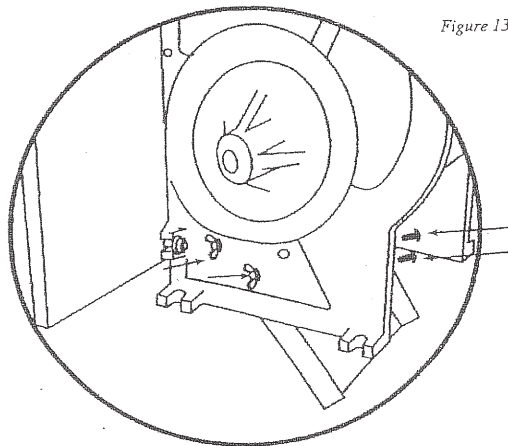

Figure 13
- Line up holes 1 & 2 of the Chute to holes 1 & 2 of the Fruit Crusher. Fasten the Chute to the main body of the Fruit Crusher using the machine screws and the wing nuts. Repeat this step on the opposite side of the Chute. Finger-tighten the wing nuts. Figure 13.